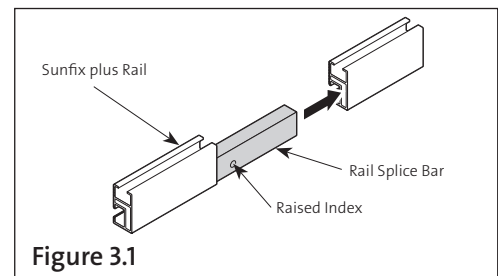

Figure 3.1
- 3.1. To connect rail sections, Sunfix plus utilizes a loose fitting, fastener-free Rail Splice Bar ⑥ to allow for transfer of load and thermal expansion/contraction. To install, insert the Rail Splice Bar into the rails until the raised index touches the rail end, as shown in **Figure 3.1**.